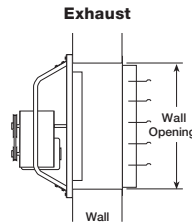
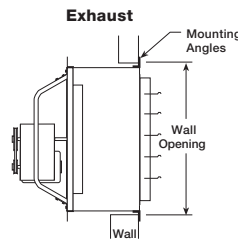
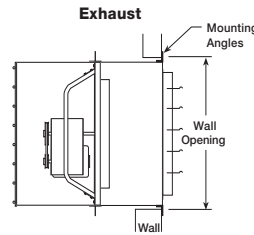
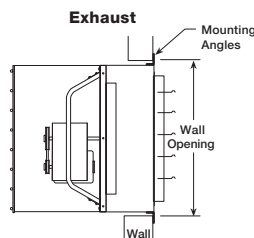

Figure 2 — Direct to Wall Installation
Figure 3 — Wall Collar Installation
Figure 4 — Wall Collar & Guard Installation
Figure 5 — Wall Housing Installation
1. Move fan to the desired location and determine the method by which the fan is to be mounted as shown in Figures 2, 3, 4 and 5. Optional wall collar (Figure 3), wall collar and guard (Figure 4) or wall housing (Figure 5) provide a convenient means of mounting sidewall fans.
3. Figure 2 shows the recommended wall opening for direct to wall installations.
4. Figure 3 shows the wall opening required for installations using a wall collar.
5. Figure 4 shows the wall opening required for installation with a wall collar and a guard.
6. Figure 5 shows the wall opening required for installation with a wall housing.